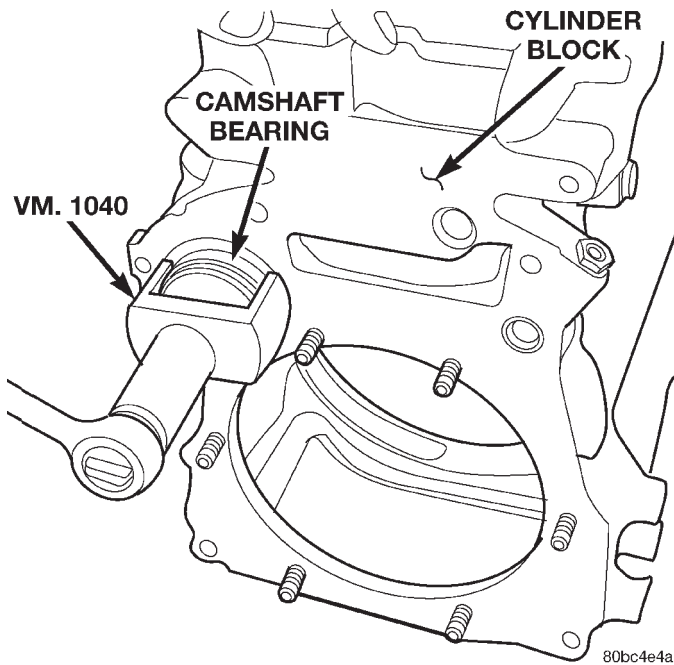

Fig. 83 VM.1040
(1) With the engine completely disassembled, install the Camshaft Bearing Remover/Installer Tool VM.1040 (Fig. 83).
(2) Pull the camshaft bearings out of the cylinder block.